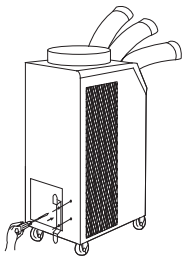

Figure 17
3. Use screws (enclosed inside of accessory box with cord holder) to install the cord holder on the air conditioner as shown in Figure 17.